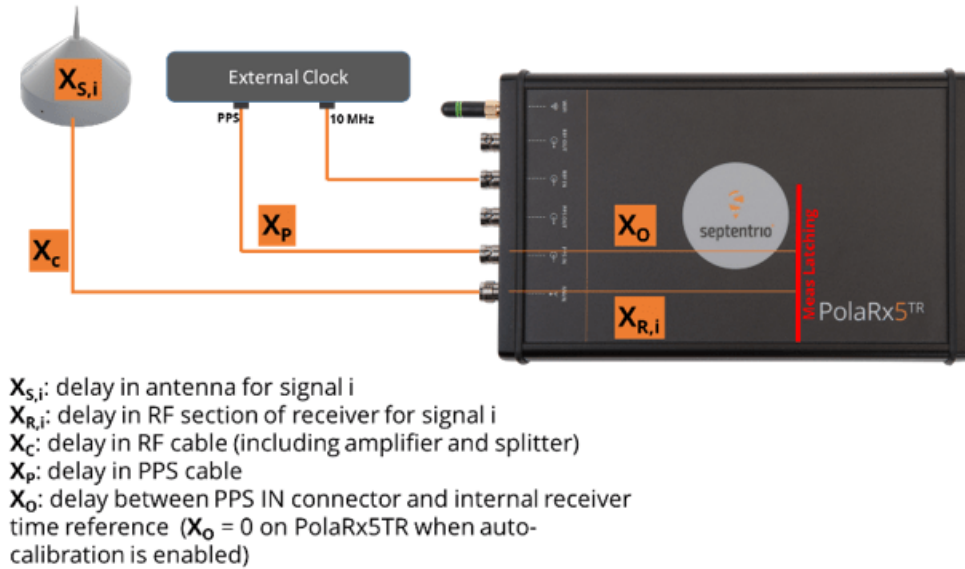

Figure 4: PolARx5^{TR}connections. From receiver user-interface.
1. Connect the antenna cable, 10 MHz reference and the 1 PPS to the PolRx5^{TR} receiver as shown in figure 4